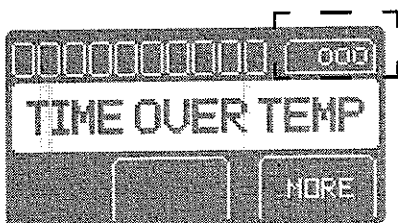

Figure 15 Total Time Exposed to Over Temperature Condition
2. From the # of OVER TEMP message screen, press the MORE button to access the TIME OVER TEMP message screen. The counter will display how much time, in minutes, the battery pack has been exposed to over temperature conditions (see figure 15).